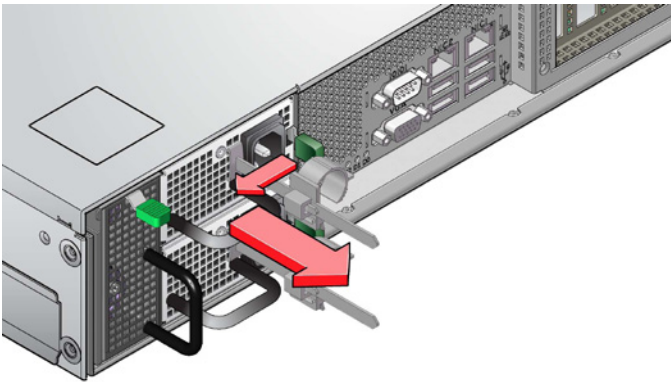

Fig. 31 - Removing a PSU (1)
3. Squeeze the locking tab to the left (Fig. 31).